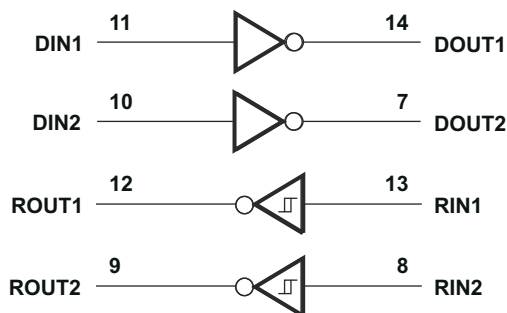

Figure 6-2. Logic Diagram (Positive Logic)
- Figure 6-2. Driver Test Circuit and Waveforms for t_{PHL} and t_{PLH} Measurements (5- μ s Input)**